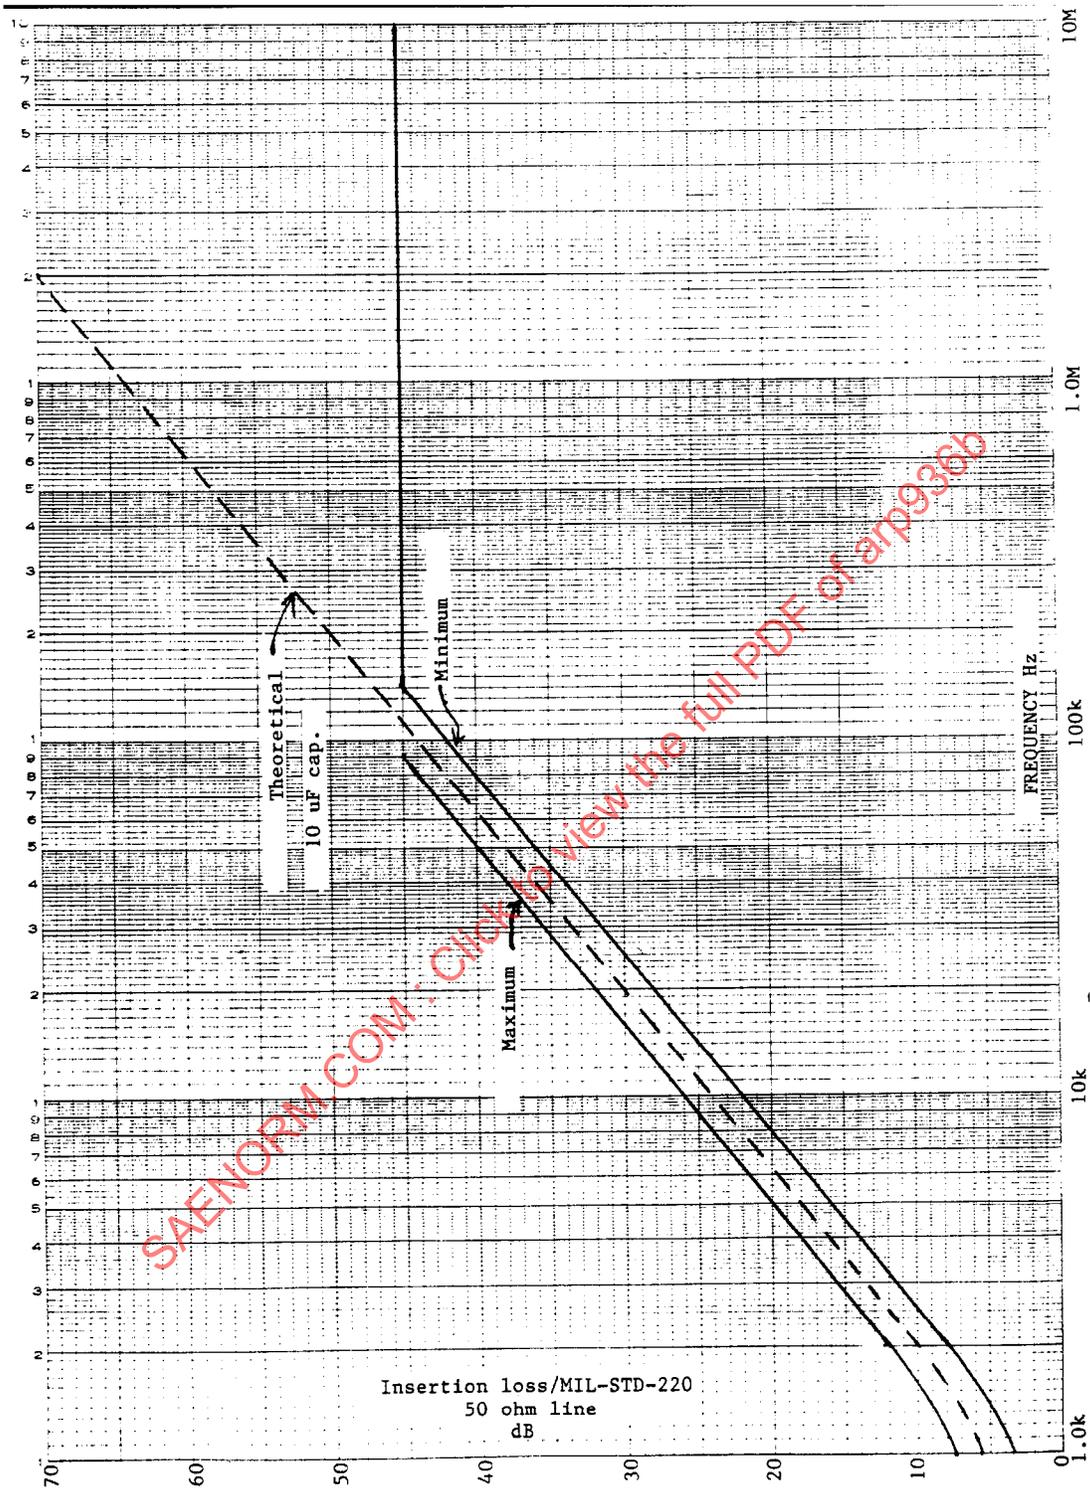

FIGURE 1
3.1.3 Insertion Loss: This should be in accordance with Figure 1 when tested in accordance with section 4.